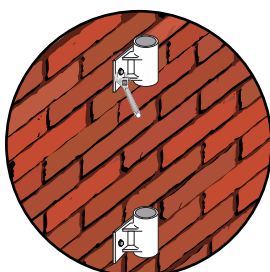

Fig 2.
2. Centralise the top bracket vertically above the bottom bracket with the specified distance between the holes as shown the chart on page 2. Drill and fix into position (see Fig 2).